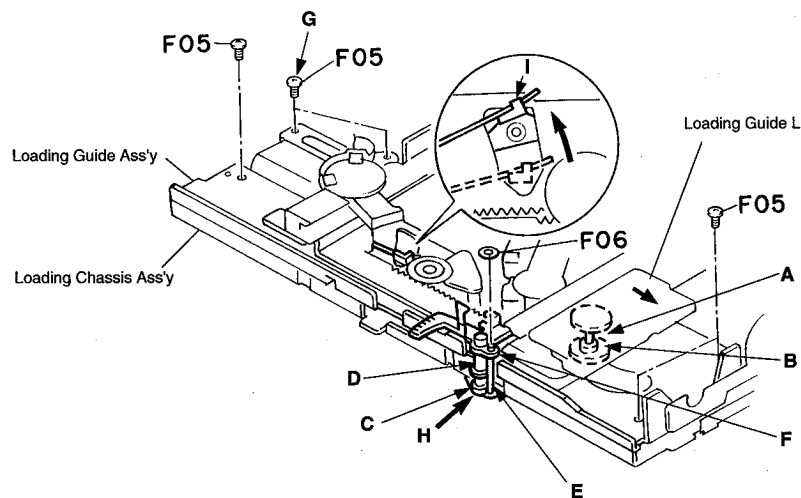

Fig. 2.12.2
- (1) First, temporarily mount the Plate LG R of the Loading Guide Ass'y on the Loading Chassis Ass'y with two screws "G", as it can move freely and come in contact with other parts. Refer to Fig. 2.12.2.
- (2) Turn the movable Plate PLS Sub Ass'y "H" to bring it to the position shown in Fig. 2.12.2.
- (3) Insert the shaft "A" of the Loading Guide Ass'y into the hole "B" of the gear train on the Loading Chassis Ass'y. (After insertion, the Loading Guide Ass'y will float from the Loading Chassis Ass'y a little.)
- (4) While opening the Loading Guide L outward, align the hole "C" of the Plate PLS Sub Ass'y with the pin "D" of the Loading Guide Ass'y and, at the same time, align the pin "E" of the Plate PLS Sub Ass'y with the hole "F" of the Loading Guide Ass'y. Then, engage them each other.
- (5) Move the part "I" in the direction shown by the arrow. Then, be sure that the Loading Guide Ass'y is securely seated to the Loading Chassis Ass'y.
- (6) Fasten the cut washer F06 and 5 screws F05 to mount the Loading Guide Ass'y.